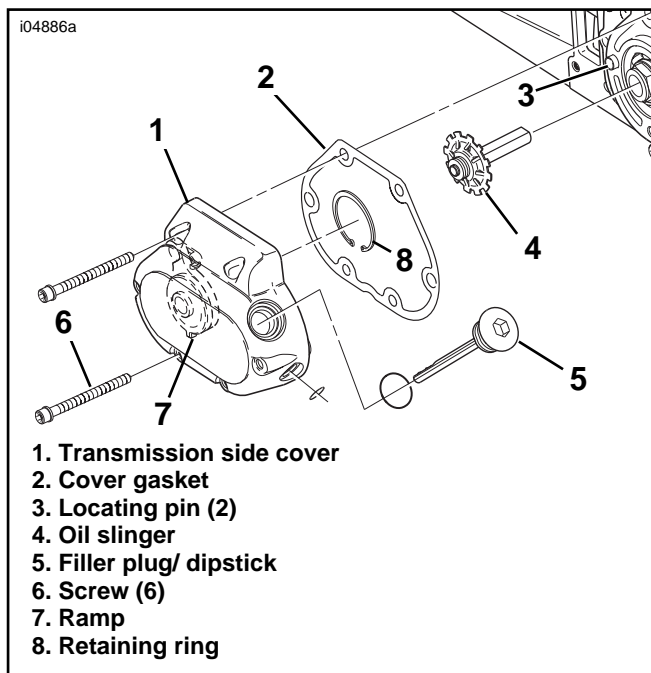

Figure 1. Original Transmission Side Cover
6. See Figure 1. Remove and retain the filler plug/dipstick (5) for later installation. Remove the six socket-head screws with washers (6) to free the transmission side cover (1) from the transmission case. Retain two screws and discard the remaining four.
7. Actuate the clutch lever to break the cover seal. Remove the cover. Remove and discard the cover gasket (2).
8. Remove the clutch ramp retaining ring (8). Rotate the inner ramp (7) to a position that will allow the clutch coupling to be disconnected. Disconnect the clutch coupling and disconnect the cable end from the coupling.
10. Remove the oil slinger (4) as an assembly from the transmission mainshaft. Discard the oil slinger.